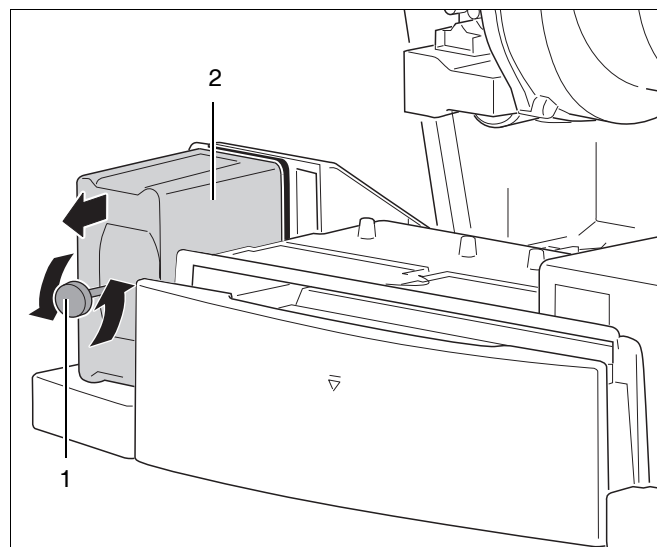

fig. 109 Dismantling the UBA 3
- Loosen the fastening screw of the UBA 3 (see fig. 109, pos. 1).
- Pull the UBA 3 forward in the direction indicated by the arrow (see fig. 109, pos. 2).